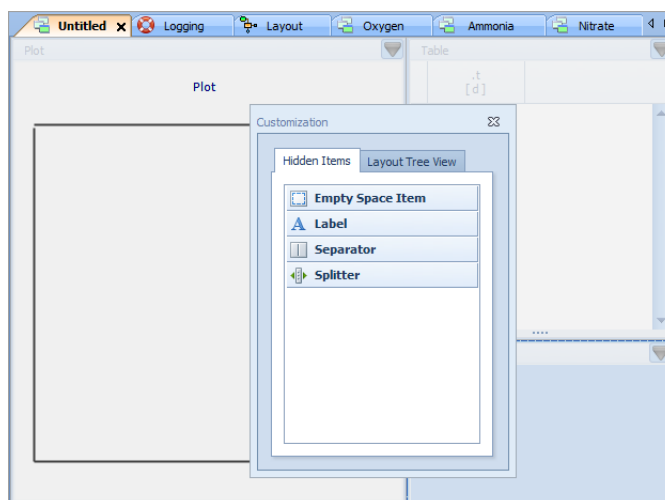

Figure 5.20 New plot, table and field items, re-arranged on a new Sheet in 'Design Mode'
- Move the Customisation dialog window out of the way, if necessary, to access the view shown in Figure 5.20.